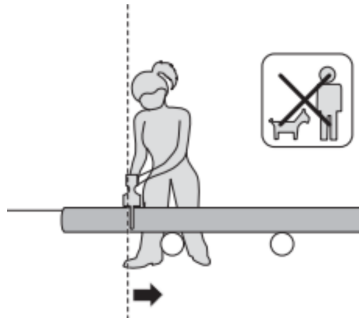

Fig. 15
2. Hold the mini chainsaw on the right-hand side of your body (See Fig. 15).